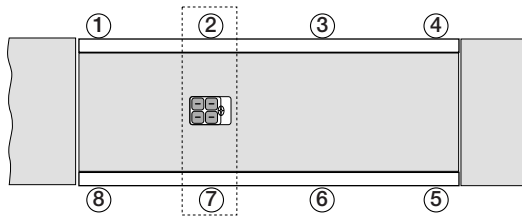

Figure 6-7. Trimming Paired Sections 2:7, 3:6, and 4:5.
2. Move the weight cart directly over the next paired cell section (2, 7 in Figure 6-7) and record the indicator reading.